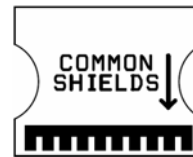
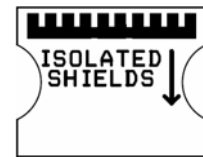

Figure 7a
Figure 7b
**For revision D.0 or higher units** – Provisions have been made to facilitate tying the 8 screens together and bringing them to the common Screen Ground terminal 53 (or G3). This is a user selectable option that is determined based on the position of the jumper installed in the "Shield Ground Option" connector. Figures 7a and 7b illustrate the two possible positions for the jumper. The carrier is delivered with the jumper installed as shown in figure 7b. As indicated in the text on the jumper, the screens are isolated. To tie the 8 screens together and route them to the SG terminal, remove, reverse and reinstall the jumper as shown in figure 7a. The arrow next to the text indicates which direction to install the jumper into the connector for the indicated function.